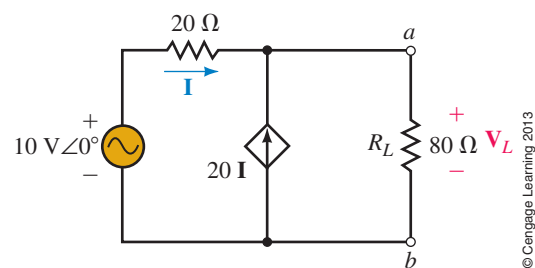

FIGURE 20-76
15. Find V_L in the circuit of Figure 20-76.
39. Find the Thévenin and Norton equivalent circuits external to the load impedance of Figure 20-76.